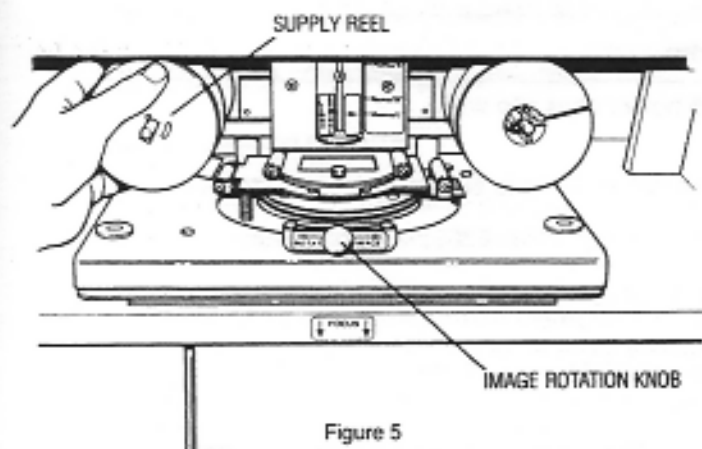

Figure 5
9. **REMOVING FILM.** Rewind all film to the left-hand supply reel, by turning the hand wheel counterclockwise. Then grasp the left-hand supply reel and pull it straight off of the spindle. (Figure 5)